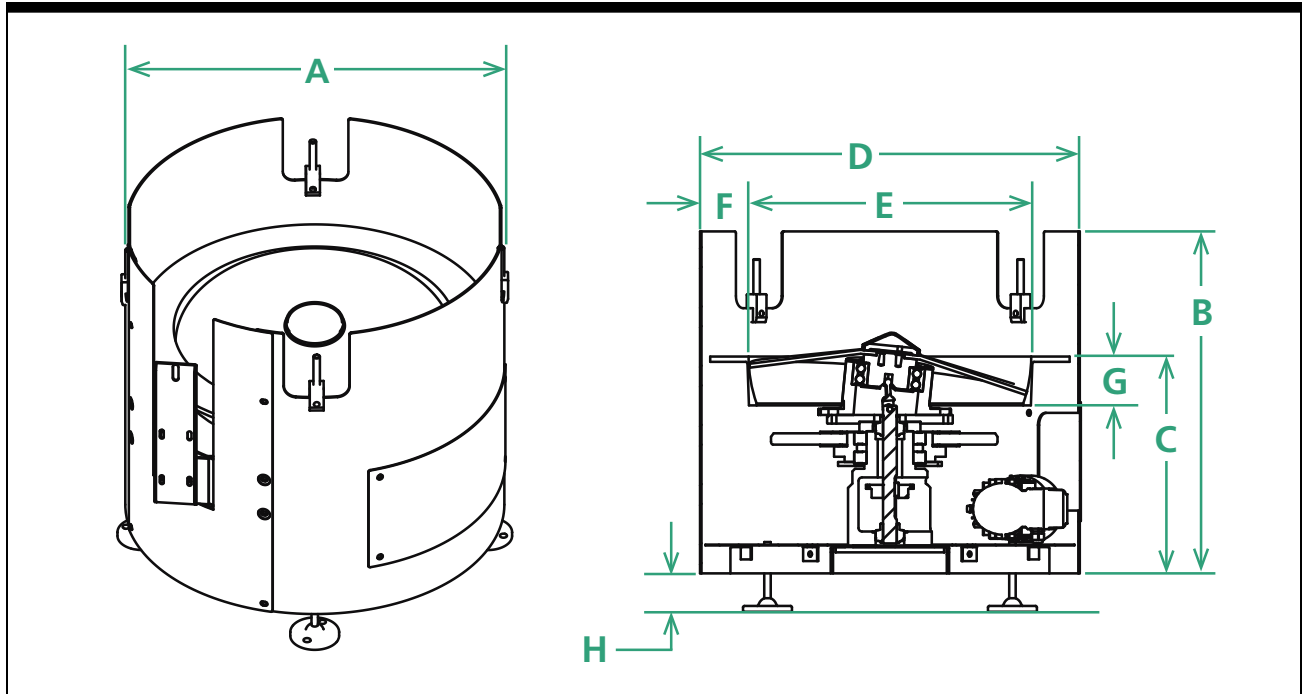
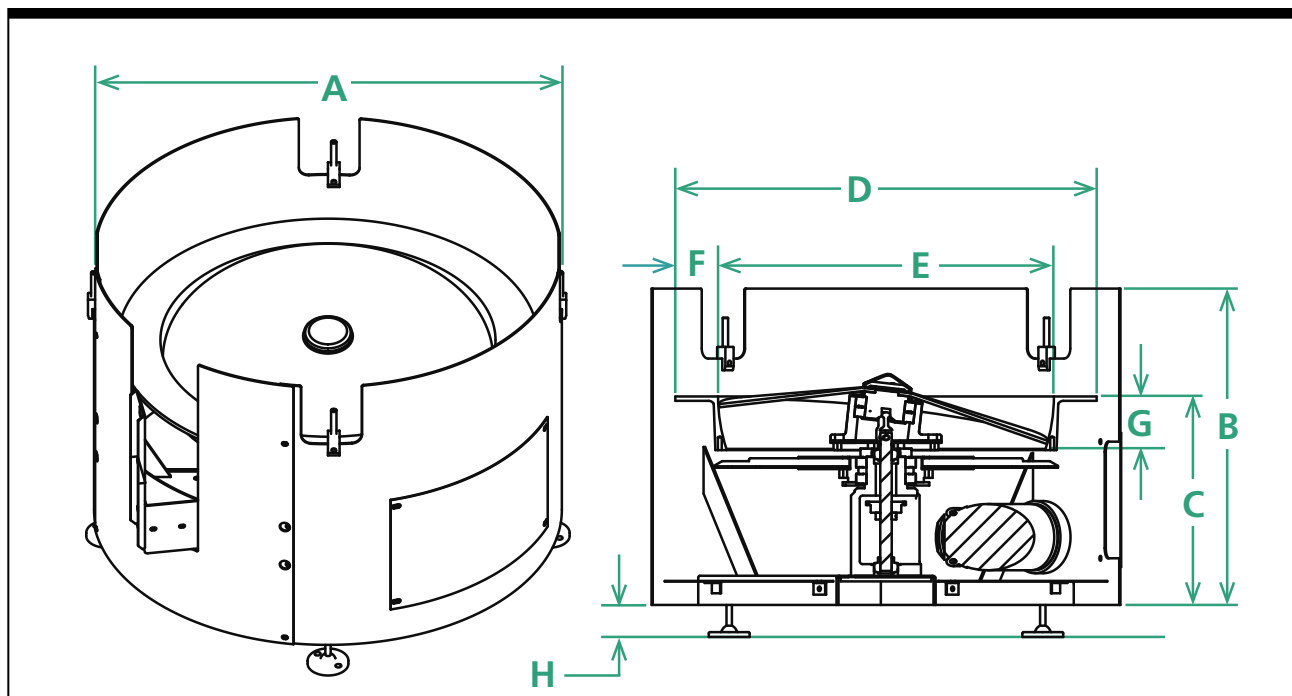

Figure 1-2. FT-20-RD Side and Top Views
Figure 1-3. FT-30-RD Side and Top Views
|  | Figure 1-2. FT-20-RD Top and Side Views        | 9  |                               |                  |
**Function** The delivery rate varies depending on product characteristics. The feeder easily interfaces with Shibuya Hoppmann's prefeeders, accumulating conveyors and assembly equipment. (See to Figure 1-2 for the FT-20-RD product specifications, and Figure 1-3 for the FT-30-RD product specifications.)